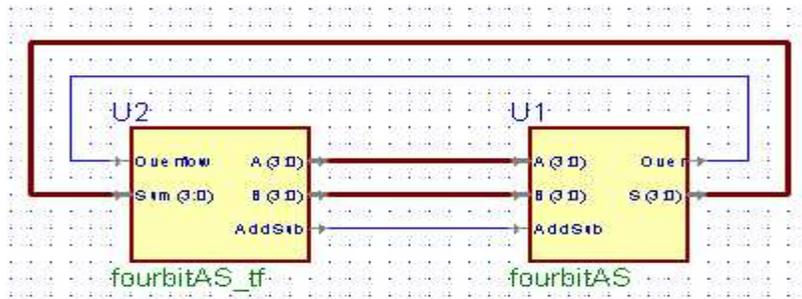

Figure 9
1. Once you have finished connecting the test fixture block symbol to your design's block symbol, save, run the check diagram tool, and compile the new schematic. Your schematic should look like Figure 9.